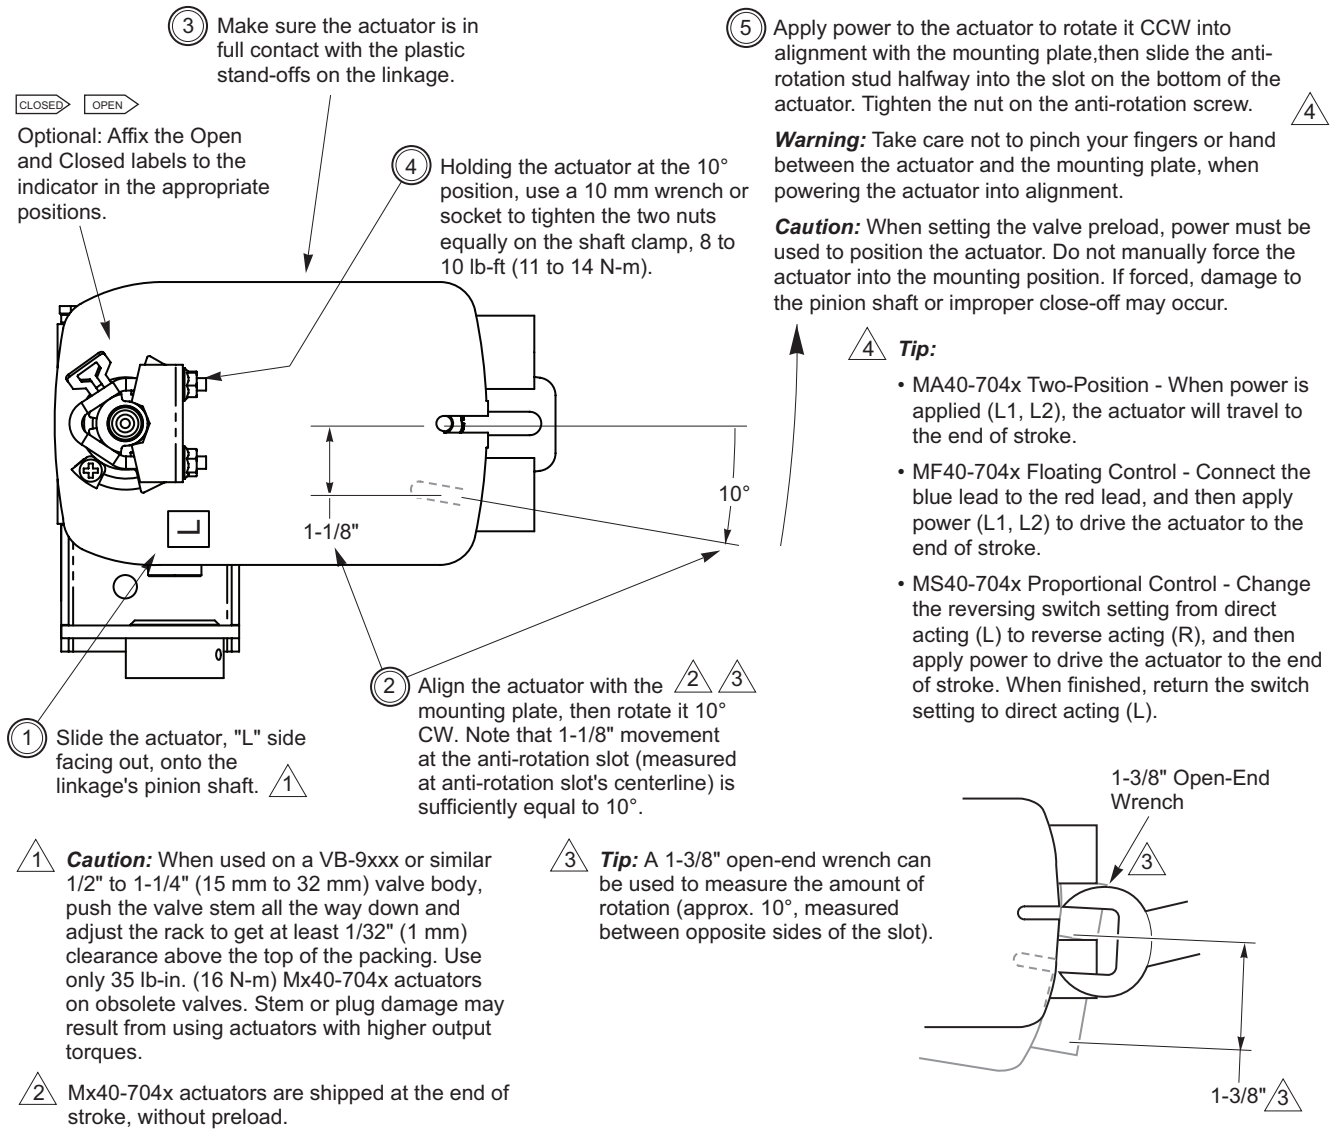

Figure-1 □ Mounting Mx40-704x on 3-Way Valves and Setting up Actuator/Linkage/Valve Assembly.
- a. Confirm that the NYBA-161 anti-rotation stud is installed in the wide slot of the linkage (refer to Figure-1 on page 3). Install the actuator onto the linkage and 3-way valve, and set up the assembly, according to Figure-6 below.